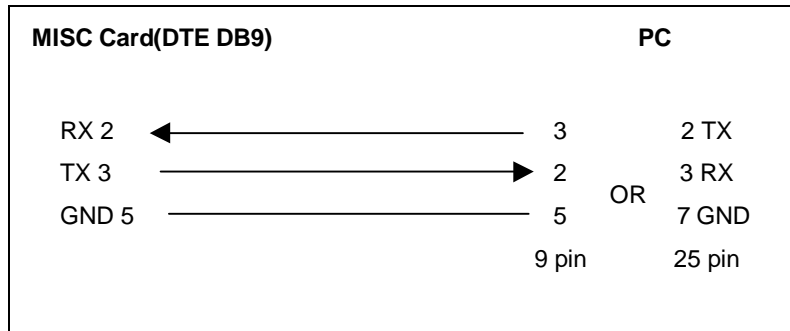

FIGURE 7-6 PIN CONNECTIONS FOR MISC CARD TO PERSONAL COMPUTER
To program the system via a personal computer (PC), connect a PC equipped with PCMMC to a serial interface connector on a MISC card (See Figure 7-6). SIO1 defaults as PCMMC.
Use an RS232C cable with connections as shown in Figure 7-6. When the PC needs to be more than 15 feet away from the KSU, use shielded computer cable. Attach a male DB9 connector to the MISC end and then attach one that matches the requirements of the PC to the other end. This cable must not exceed 300 feet.